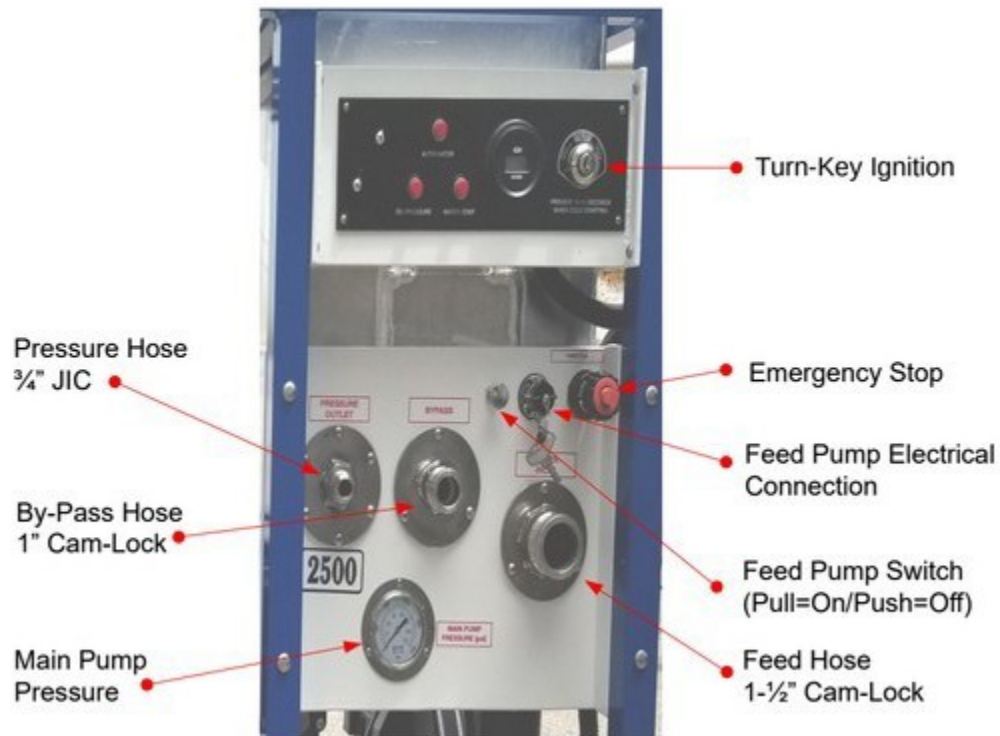

Figure 4.5 – Emergency Stop Button
3. Push IN the Emergency Stop button to ensure power has been disconnected. (See **Figure 4.5**).
4. Check the fuel tank (See ***Figure 4.5***).